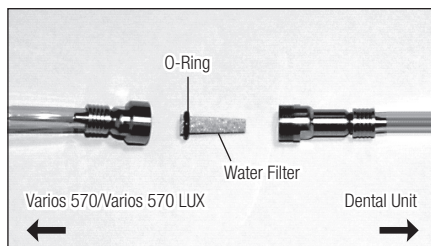

Fig.20
- 3) When the Water Filter case is separated, the Water Filter can be removed as shown in Fig. 20.